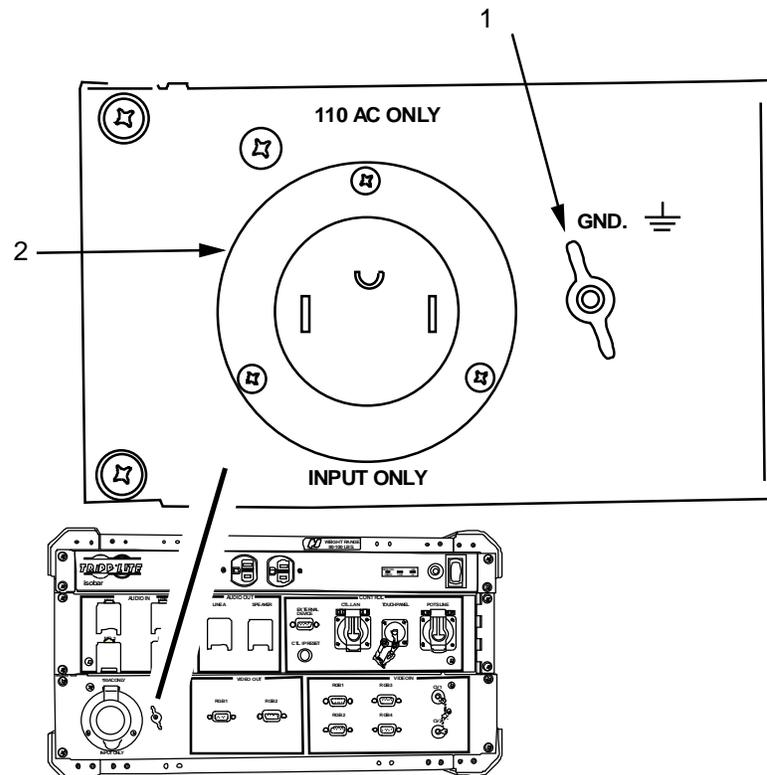

Figure 11. Connect AVCS (MINI) System Power Cable and Ground Lead.
2. Identify the power connector (Figure 11, Item 2) on the Left Bottom Rear of the AVCS (MINI) and remove the dust cover.